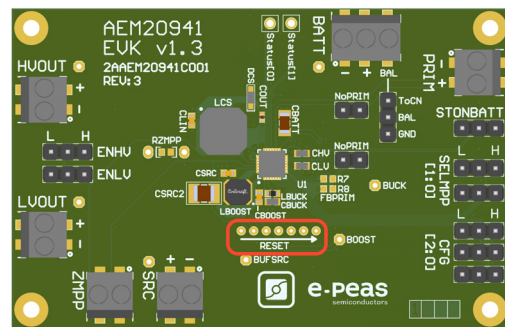

Figure 2: Board reset
1. Reset the board - see Figure 2.